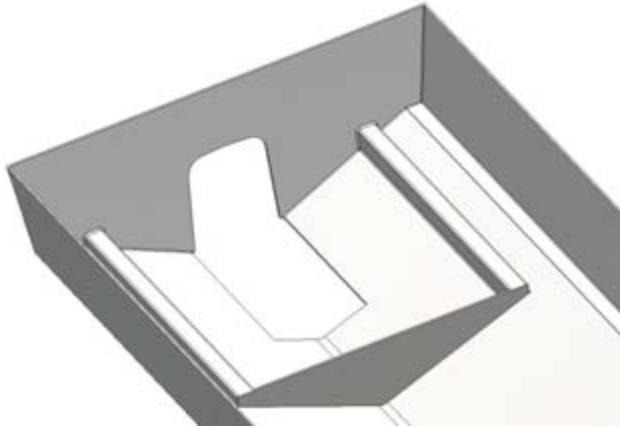

Figure 13. The hole for the mounting template on a boat's hull
- by cutting a hole on to the hull of the boat (bottom and stern) (see figure 13) and attaching the mounting template to it by either laminating, welding (aluminium) or bolting (steel, polyethylene)